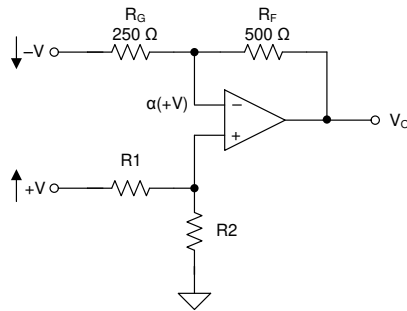

Figure 8-2. D2S Impedance Analysis
The resistor values around the D2S difference amplifier are derived in the following sequence, as shown in Figure 8-2:
3. Solve the required attenuation to the noninverting input to get a matched gain magnitude for the signal provided at the buffer output (+V) on the noninverting path. If $\alpha = R_2 / (R_1 + R_2)$, as shown in Figure 8-2, then the solution for α is shown in Equation 2:
The impedance seen at node $-V$ in Figure 8-2 is derived in Equation 3 by solving for the V/I expression across R_G .